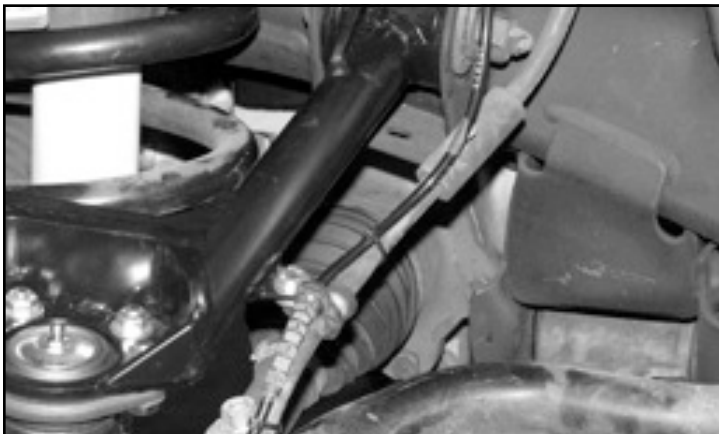

FIGURE 37 - STEP 41
41. Reconnect the wheel speed sensor and zip tie to the brake line. **SEE FIGURE 37**